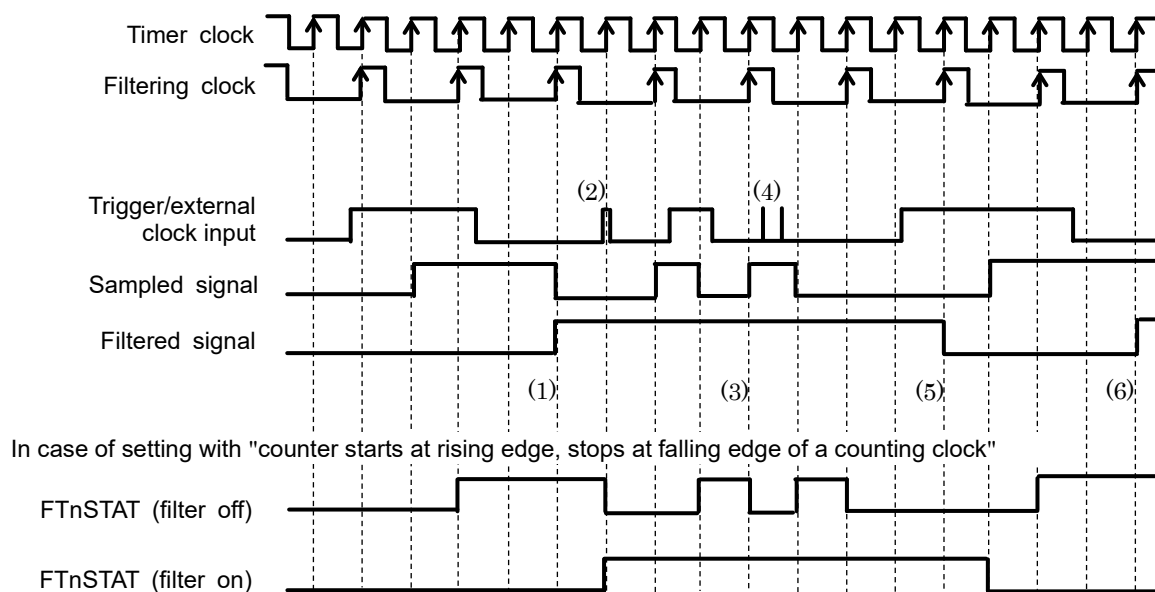

Figure 9-16 Noise filter function
Figure 9-16 shows an example of the timing chart when the FTnTRF2-0 is "001". In this setting, the filtering clock is generated by two clocks of the timer clock, it takes four timer clocks to surely accept the pulse and takes two timer clocks to surely filter the pulse.
At the timing of the filtered signal (1), (5) and (6) in the Figure 9-16, the event trigger/external clock are recognized as a valid pulse and the levels are updated because the same level of the event trigger/external clock remains for two filtering clocks.